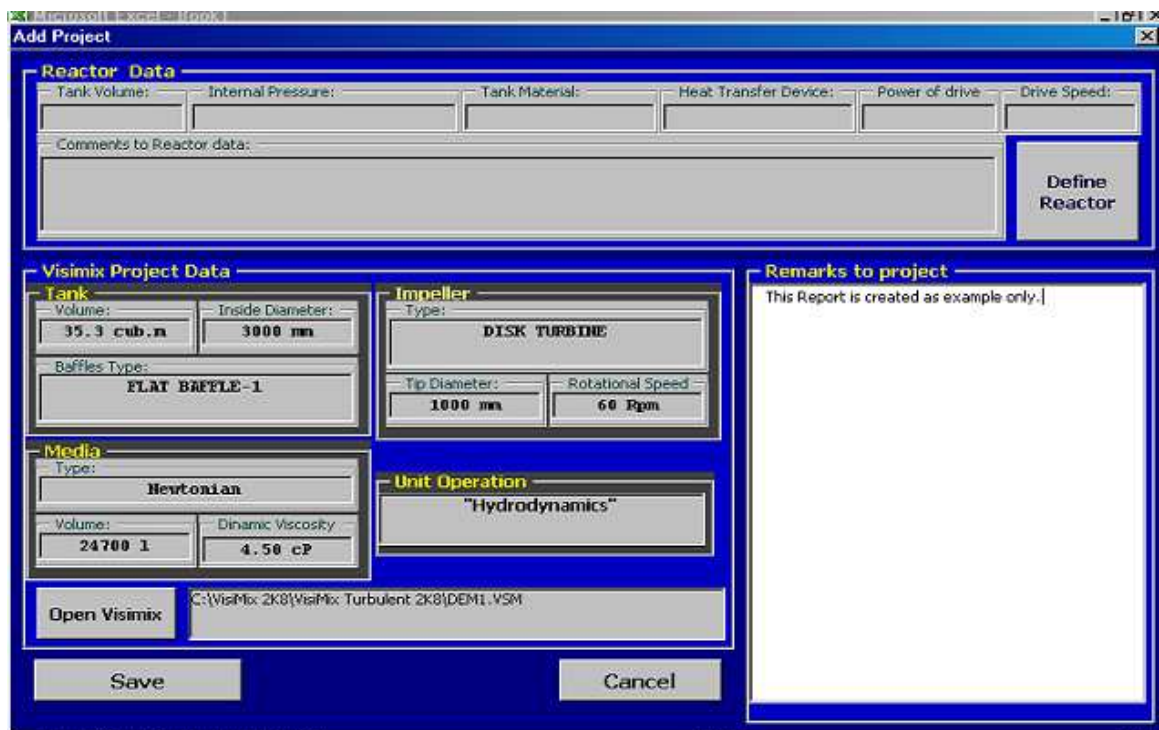

Figure 1.9.
- 1.5. Check data of the project in the arriving form (Figure 1.9). If the data are not correct select **Cancel** and repeat steps 1.1-1.4.
- 1.6. Enter remarks to the project (if necessary) and confirm entry of this project into **Projects list** with **Save (Figure 1.9)**. A line corresponding to the Project arrives in the **Project list** (Figure 1.10).